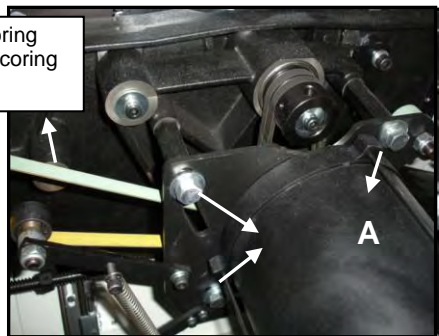

Fig. 64
4. Loosen the three M12 bolt (Fig.64)